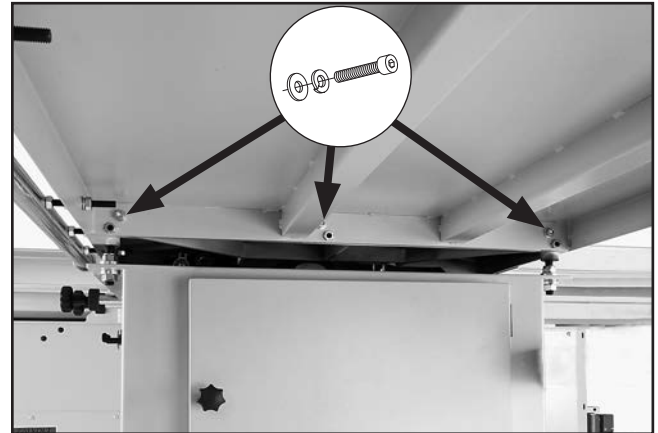

Figure 27. Underside view of large extension table attached to cabinet.
- Attach large extension table to cast iron table using (3) pre-installed M10-1.5 x 25 cap screws, 10mm lock washers, and 10mm flat washers (see **Figure 27**). Only hand tighten cap screws for now. They will be fully tightened in a later step.